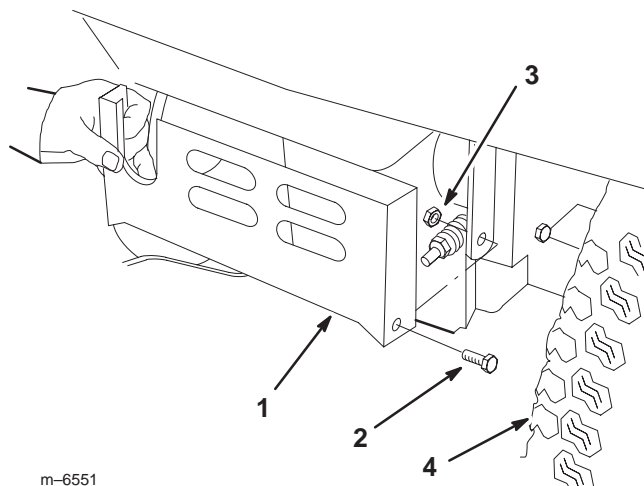

Figure 3
2. Remove the two bolts, nuts, and rear cover plate from the back of the tractor (Fig. 3).
- Install the belt cover with 3 spacers [1/2 inch (13 mm)] between the belt cover and mower (Fig. 3).
- Secure the belt cover and spacers with 3 bolts (1/4 x 1 inch), 3 flat washers (5/16 inch) and 3 lock washers (1/4 inch) (Fig. 3).